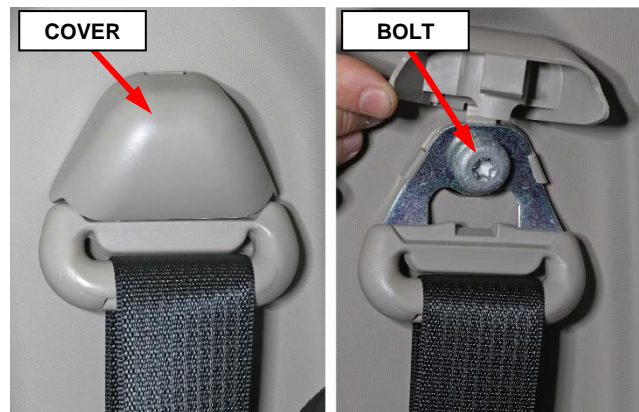

Figure 29 – Seat Belt Turning Loop
- 17. On the C-pillar, lift the seat belt turning loop cover then remove the turning loop bolt (Figure 29).
57. Using a **NEW** bolt and reusing the spacer washer, install the turning loop then tighten the bolt to 40 N·m (30 ft. lbs.) (Figure 29).
58. Install the seat belt turning loop cover (Figure 29).